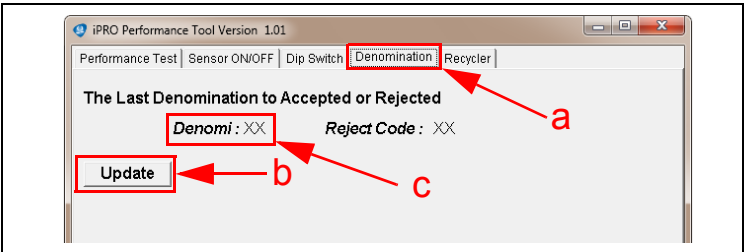

Figure 10 Denomination Tab Selection 2
- **Denomination Update** - Click on the “Denomination” Tab (Figure 10 **a**) to view the Denomination Screen, then click the “Update” **Update** (Figure 10 **b**) Screen Button to confirm the value of the Banknote that was inserted into the iPRO Unit.
For example, by inserting a \$100.00 Banknote into the iPRO Unit and clicking “Update” **Update**, the *Denomi:* field (Figure 10 **c**) displays the value of the Banknote instead of the “XX” Value shown in Figure 10**c**. By inserting a Ticket and clicking “Update,” the *Denomi:* field displays a Zero (“0”) Value.